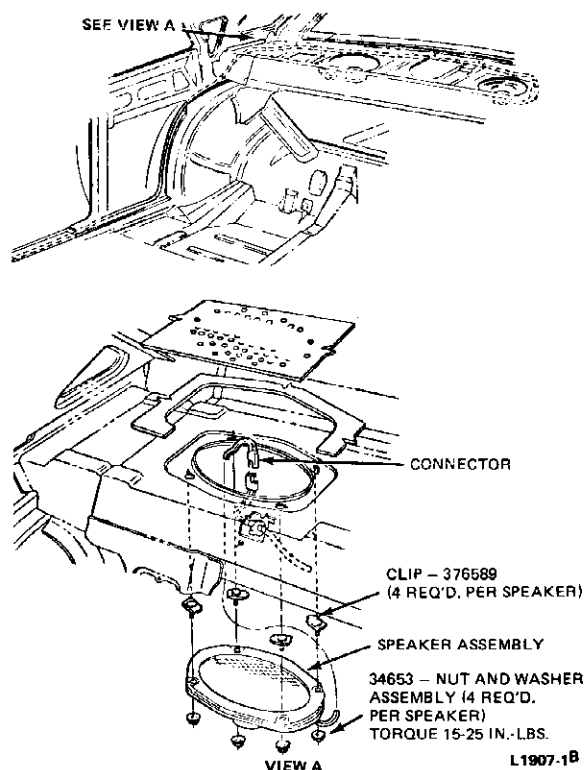

FIG. 12 Typical Sedan—Rear Seat Speaker Package Tray Installation—All Sedans Except Pinto, Bobcat and Mustang II
3. Remove the speaker cover and the speaker attaching nuts and speaker from the underside of the package tray (Fig. 12).